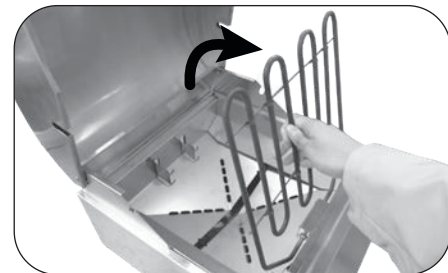

**Fig. 22-1** Remove control panel
4. Loosen the nuts underneath the control panel with a 11/32" wrench, then lift the panel until it is freed from the screws. Carefully rest the panel on the drip tray. Reference Fig. 22-1.